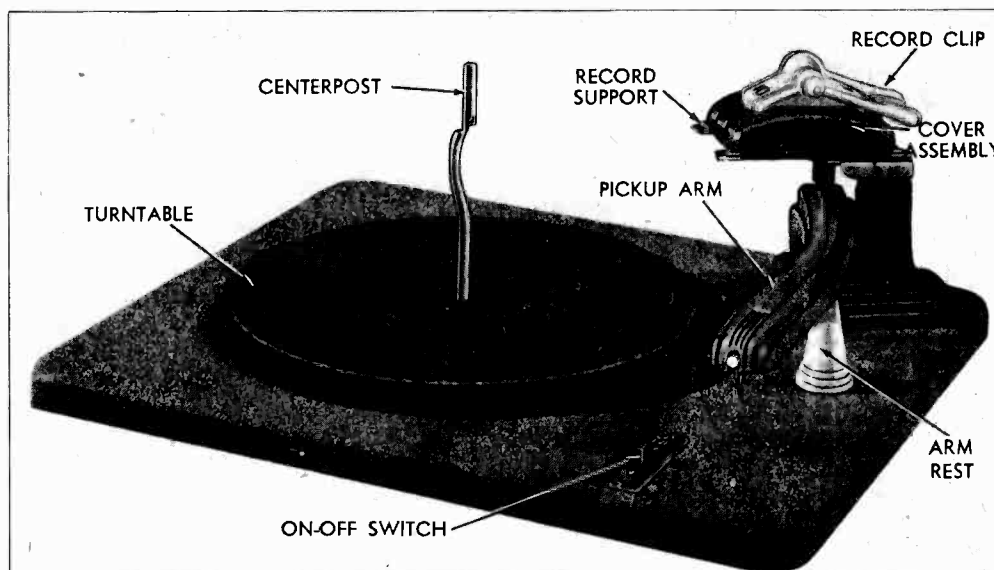

FIGURE 1. RECORD PLAYER, TOP VIEW
The size of record for which the record changer is set to play is indicated by the number (on the top of the cover assembly) nearest the turntable.*See Figure 1.
This changer is designed so that the 10-inch set-down point, the 12-inch set-down point, and the pickup or trip point are simultaneously adjusted in a single operation. It is recommended that you make the adjustment at either of the set-down points. This adjustment is made by means of the adjusting screw (32) shown in figure 1. Turning this screw counter-clockwise will cause the arm to set down closer to the centerpost; turning it clockwise will cause the arm to set down further away from the centerpost. One complete turn on the screw will move the arm about $\frac{1}{4}$ inch.